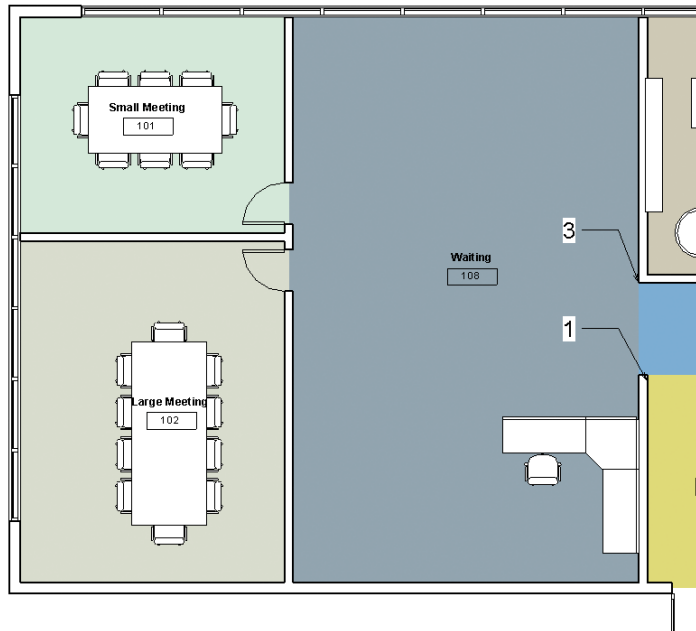

FIGURE 8.15 Resulting color fill
7. Modify the color values to Red 203, Green 242, and Blue 222. When you complete the changes, the fill color automatically updates to reflect your changes (Figure 8.15). Notice that all rooms that share the same name also share the same color fill. Color fills were automatically created based on assigned room names. If a room is renamed, the color fill should change accordingly.